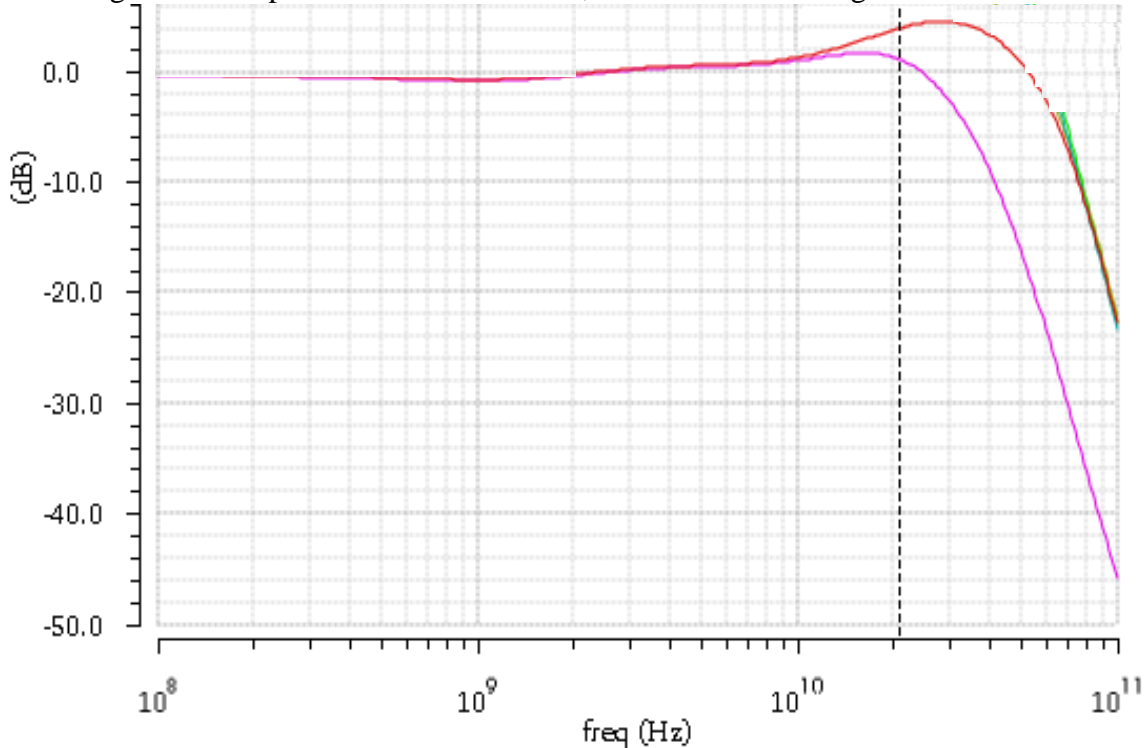

Fig. 4. DC Gain and BW Control Characteristics
Additionally, the path's bandwidth (BW) can be also adjusted as shown by the red and magenta curves in Fig. 4 that are plotted for the Max Pole, and Min Zero setting.